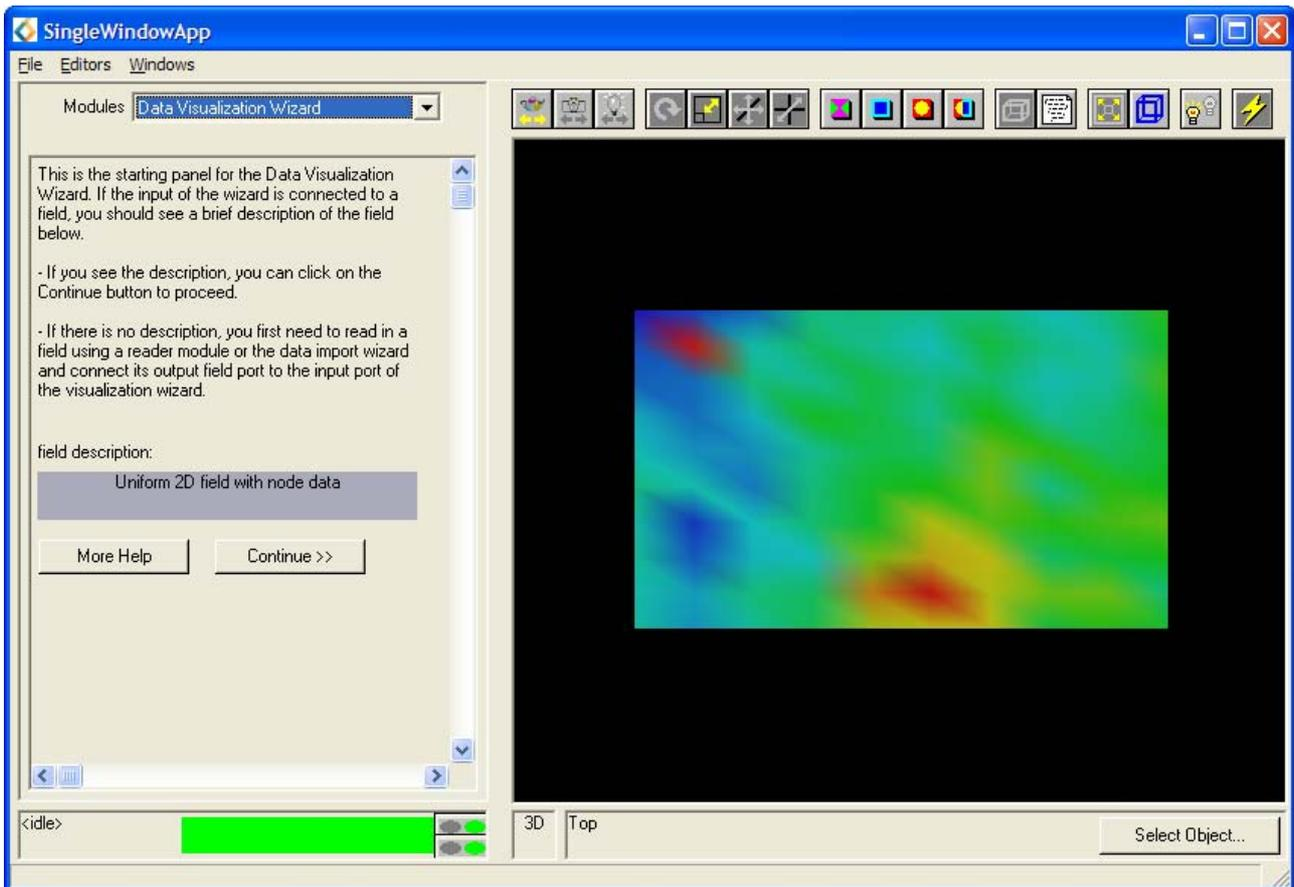

Figure C.40: Data Visualization Wizard Editor Panel
- The parameters of the Read\_Text\_Columns and table\_to\_scatter\_field modules may be reset to default when fixing the bug. Before you continue it is necessary to reset these parameters (Section C.4.4) and to obtain an image similar to that shown in Figure C.40.
- In the **Modules** drop down list in the Data Viewer select Data Visualization Wizard to display its properties in the Editor Panel as shown in Figure C.40.